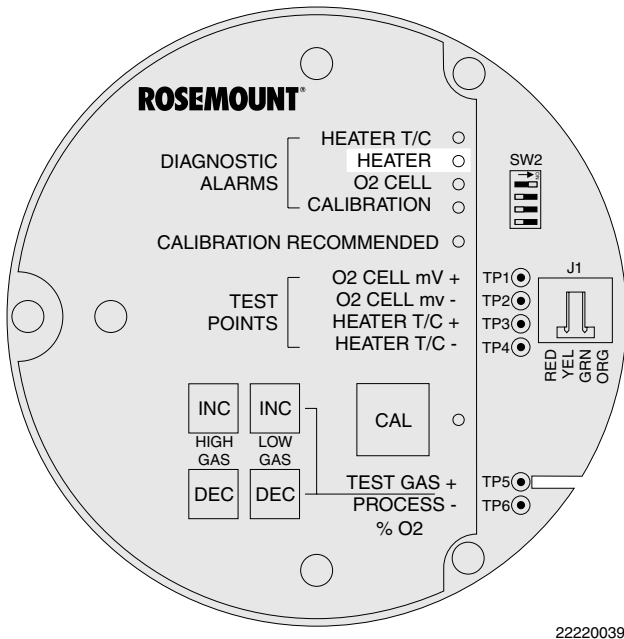

Figure 5-8. Fault 8, Low Heater Temp
h. Fault 8, Low Heater Temp. The HEATER LED flashes four times, pauses for three seconds, and repeats (Figure 5-8).